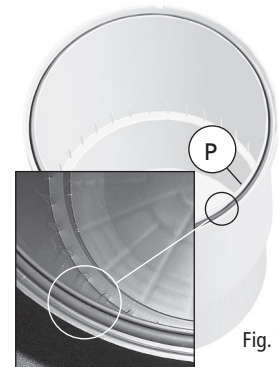

Fig. 1
- Before the first start-up, it is necessary to install the lid O-ring (P), which is supplied in a separate poly bag. This O-ring must be correctly inserted in its seat at the top of the filter canister (Fig. 1).